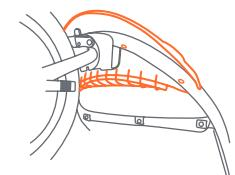

Fig. 23a
- 22) • Reverse (Fig. 23a). Remove fender to access nut. You can use a standard crescent wrench to tighten the nut (Fig. 22).
- 23) • Line up the front fender and press onto the front frame assembly (Fig. 23a).